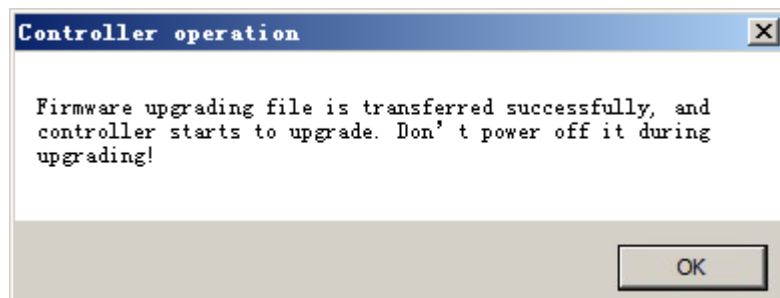

Figure 5-11 The Prompt box for Transmission of Firmware File
Step 3. A prompt box as shown in Figure 5-11 popped up. Click **OK** to start upgrade.